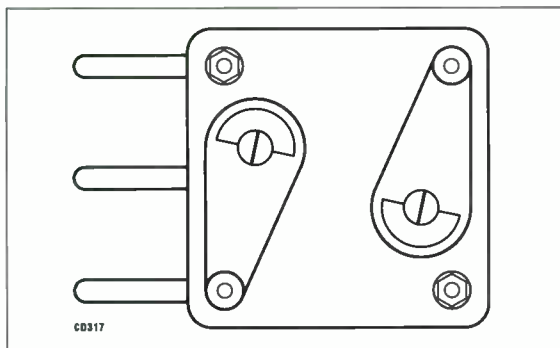

Fig 3.13. Showing the position of the trimmers for maximum frequency coverage
6. In order to get the maximum frequency coverage on each band it is necessary to set the trimmers to minimum. Examine VC1 – there are two screws on the back and if these are turned by means of a small screwdriver it should be possible to see the moving vane of the trimmer. Set both the screws so that the vanes are not covering the fixed vanes. See Fig 3.13.